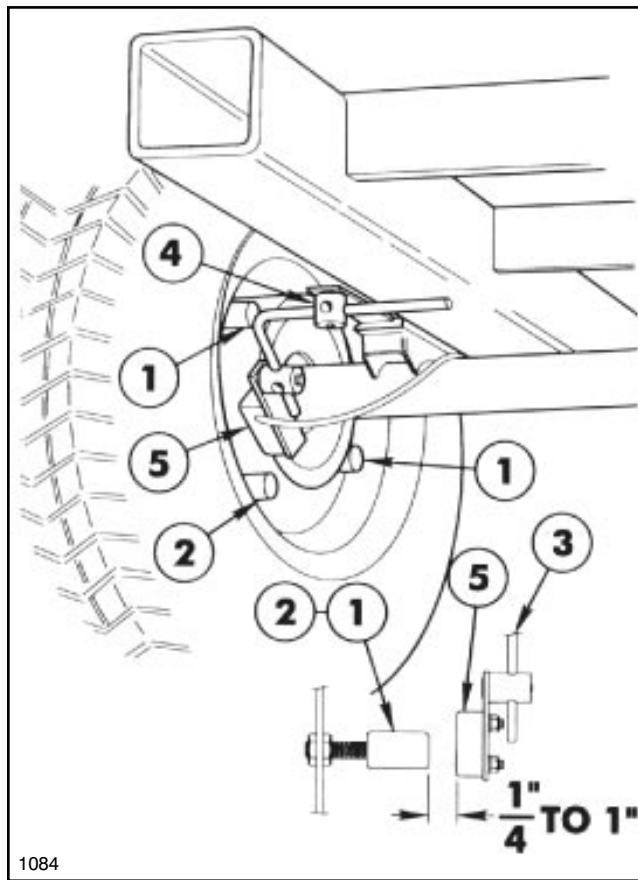

FIG. 3
1. Mount the four (4) Wheel Magnets to the inside rim of the Vehicle's left rear wheel with eight (8) hex nuts and four (4) lock washers as shown in FIG. 3. **IMPORTANT! Magnets must be mounted in alternating red-black sequence.**